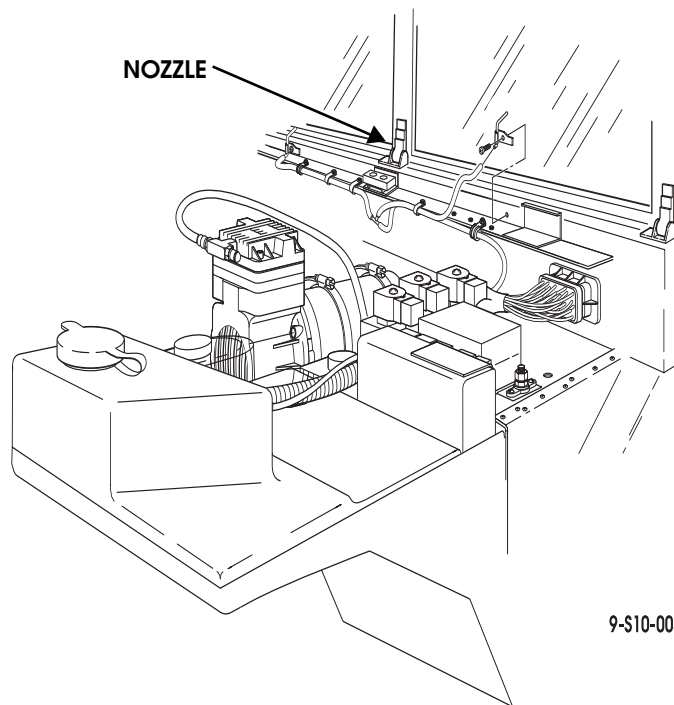

Figure 10-112: Windshield Washer Nozzle Replacement
1. Disconnect hose from nozzle (Figure 10-112).